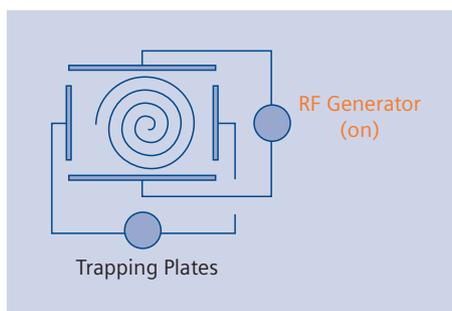

Figure 2: The RF frequency moves the ions into a higher orbit
This is accomplished by the second basic physics principle. This principle is, that each unique ion mass will absorb or resonate with a very specific and unique resonance frequency (RF). So if we wanted to measure for the presence of a specific ion, like the  $N_2$  ion for example, we could beam in the RF frequency that  $N_2$  would absorb. As the  $N_2$  ions absorb this energy, the orbit that the  $N_2$  ions follow increases until it “leaves the pack” of the other ions in the mixture (Figure 2). The  $N_2$  ions are still rotating on the same magnetic field line as the others, just in a higher orbit. Consequently, with appropriate variation of the RF frequencies, it is possible to measure a wide range of ion masses.